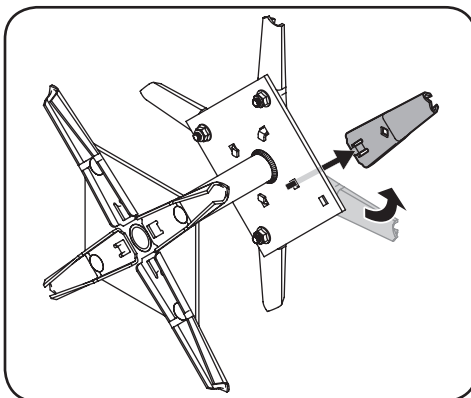

Figure 5-3
3. Rotate the spoon until the hook tab is free of hindrance from the assembly. Then pull it straight up to remove it. See Figure 5-3.